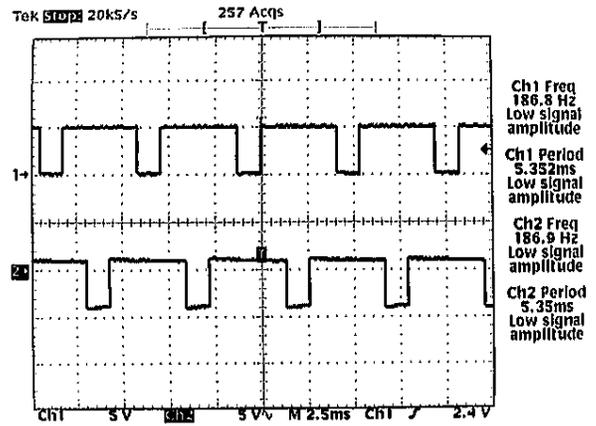

Figure 2.
4. Verify channel 1 and 2 oscillator scan signals (shown in Figure 2) on Pins 2 and 3 of U6 respectively.